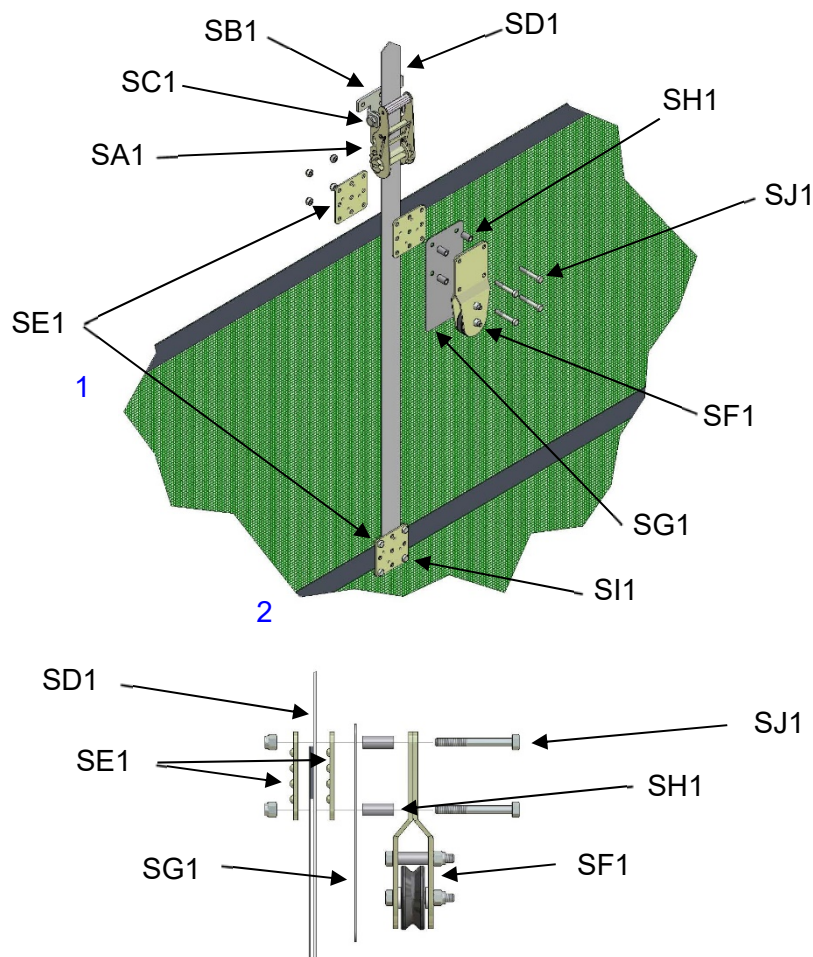

Figure 20
6.2 Fix the Ratchet (SA1) to the Ratchet Bracket (SB1) with the M12 x 90mm bolt (SC1) provided. The standard fitting of the ratchet bracket is depicted in Figure 20, but it can be reversed if vertical mounting space is limited. Fit assembly to the building with three fixings, minimum size 8mm.
6.3 Referring to Figure 20. Fix vertical webbing strap (SD1) to second strap down on the door using the Clamp Plates (SE1) and M8 x 20 Bolts (SI1) provided. Repeat process on top strap but use the M8 x 50 Bolts supplied (SJ1) and include the Wire Support Assembly (SF1), Spacers (SH1) and Wire Support Protection Pad (SG1). Feed webbing through ratchet and ensuring a minimum of 150mm of webbing is around the ratchet barrel operate handle to lift the door. Continue to adjust ratchet until top of door is level.